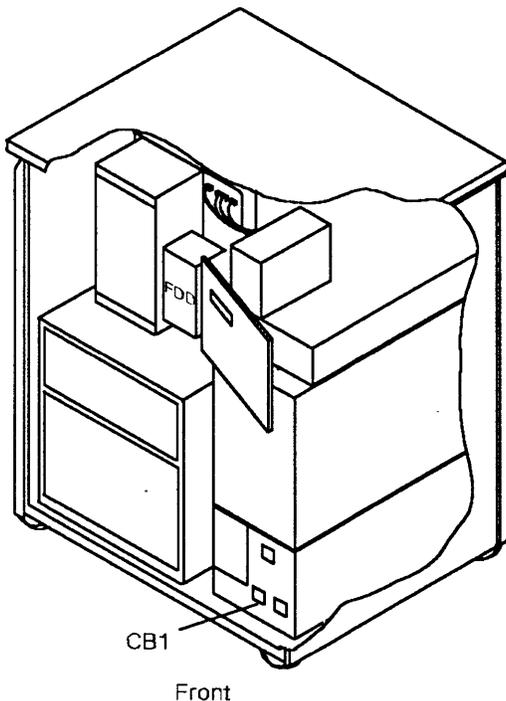

Figure 4-70. FDD and CB1 Location .
For physical locations, refer to Figure 4-70.
- 3) **Switch CB1 OFF.** Refer to Figure 4-70 on page 4-50.